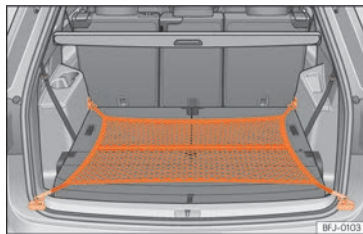

Fig. 205 In the boot: net bag hooked up at floor level.
- Secure the net hooks to the fastening rings >>> **Fig. 205**, >>> . The bag zip should be facing upwards.